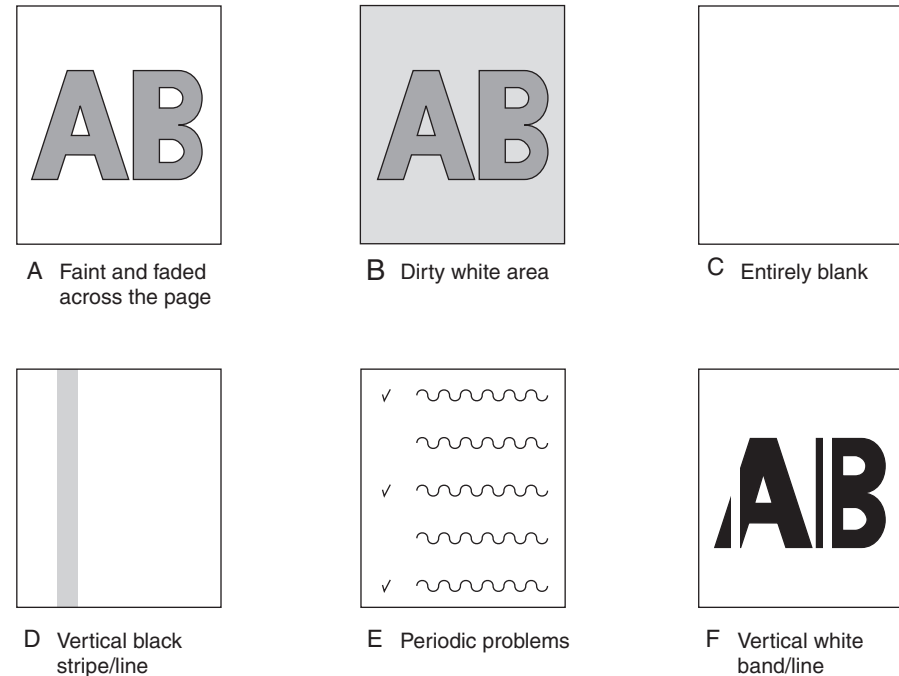

Fig.7-2
- (1) Color is faint and fades across pages (see Fig. 7-2 A).....7-58
- (2) The white area of printed pages is dirty (see Fig. 7-2 B).....7-59
- (3) Printed pages are blank (see Fig. 7-2 C).....7-60
- (4) Vertical lines are produced in printed pages.7-61
- (4-1) Fine lines (colored) (see Fig. 7-2 D)7-61
- (4-2) Fine lines (white) (see Fig. 7-2 F)7-61
- (5) Print quality problems appear periodically (see Fig. 7-2 E).7-61
- (6) Color misregistration is significant.7-62
- (7) Black filled-in printing7-62
- (8) Color jobs are printed in monochrome, not in color.7-63
7.5.3 (1) Color is faint and fades across pages (see Fig. 7-2 A).
7.5.3 (2) The white area of printed pages is dirty (see Fig. 7-2 B).
7.5.3 (3) Printed pages are blank (see Fig. 7-2 C).
(4-1) Fine lines (colored) (see Fig. 7-2 D)
(4-2) Fine lines (white) (see Fig. 7-2 F)
7.5.3 (5) Print quality problems appear periodically (see Fig. 7-2 E).